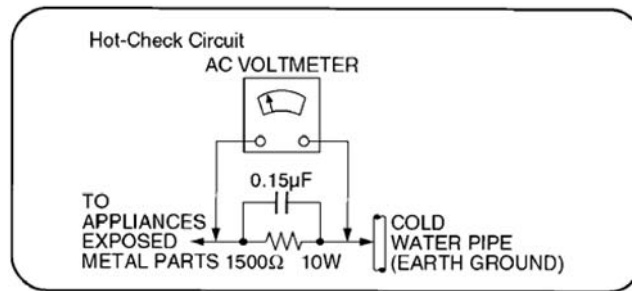

Figure 1
4.1.2. Leakage Current Hot Check (See Figure 1)
2. Connect a $1.5\text{k}\Omega$, 10 watts resistor, in parallel with a $0.15\mu\text{F}$ capacitor, between each exposed metallic part on the set and a good earth ground such as a water pipe, as shown in Figure 1.